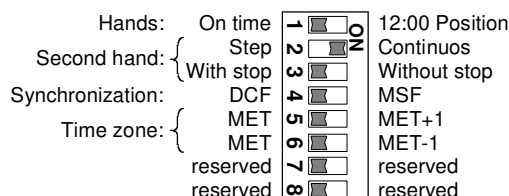

Fig. 5
- Set DIP switch **1** to **ON** position (12:00 Position, Fig. 5)
- If the 12 o'clock position of the clock is OK, reset DIP Switch **1** to **OFF** position (Fig. 5).